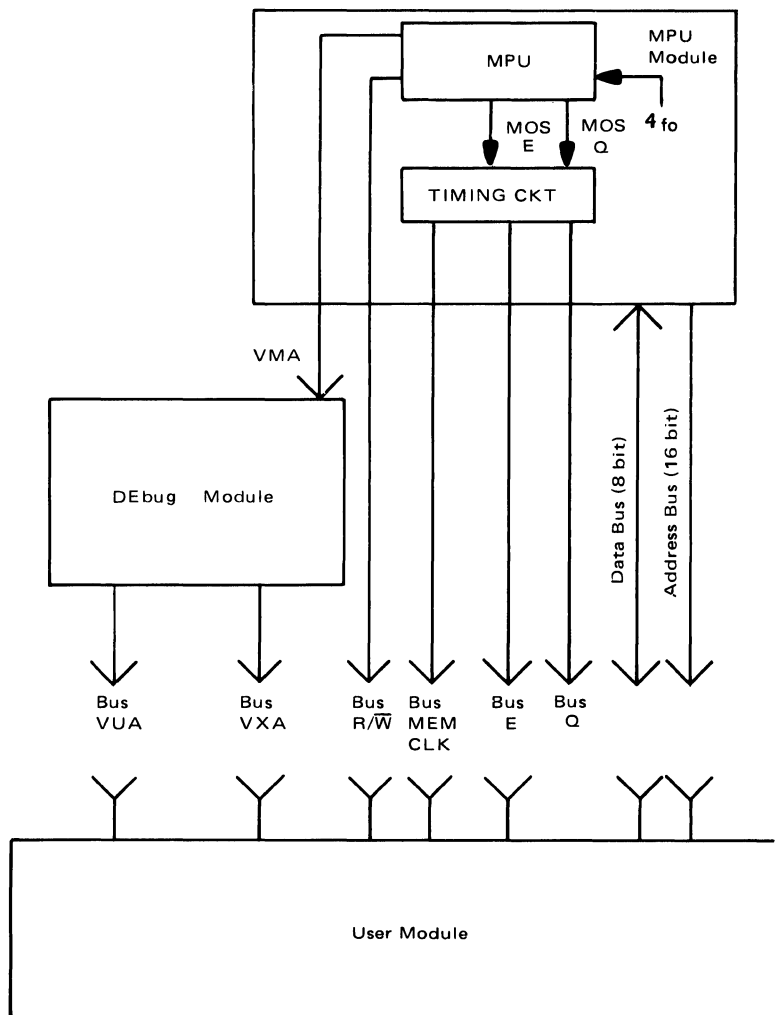
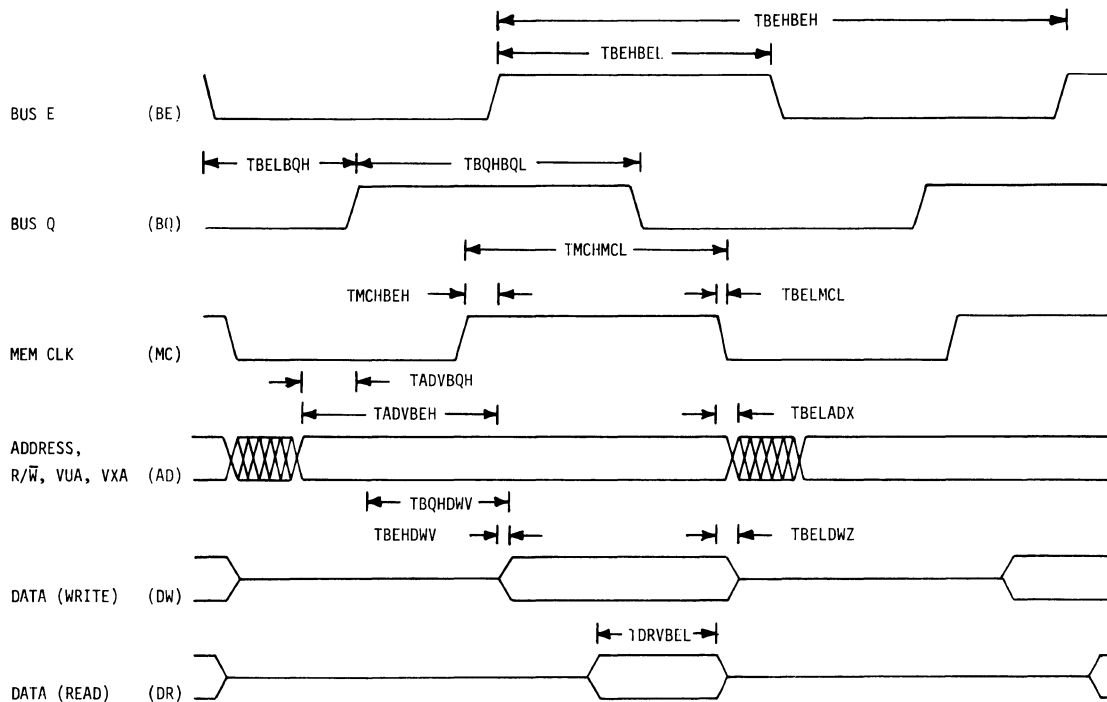

FIGURE 1. EXORciser Timing Signals Diagram (Bus View)
FIGURE 2. EXORciser Bus Specification Timing Diagram
The second portion of Appendix A is intended to provide the user with detailed timing data and general application notes. It is written from the perspective of the design engineer who wants to design a new peripheral and/or memory module that will interface with the EXORciser bus. Therefore, timing data is presented with respect to the bus (internal timing on specific modules is not discussed). Figure 1 presents a block diagram illustrating this point of view (using the bus as the reference). Figure 2 provides a general timing diagram for the most important signals on the bus. Frequent reference will be made to these two figures throughout the following discussion.
All abbreviations shown in Figure 2 and Table 5 (as well as in the examples) use upper case characters with no subscripts. The initial character is always the letter T followed by a six-character descriptor. This descriptor is used to identify the to/from measurement points. The first three letters of the descriptor identify the signal name and transition level for the measurement starting point, while the last three letters identify the signal name and transition level for the measurement ending point. The descriptor format is illustrated in Table 3, while Table 4 lists the measurement abbreviations.
The bus timing and control signals are generated by the MPU and Debug Modules. These signals will be described with reference to Figures 1, 2, and Table 5.
The time relationship between the bus signals is shown in Figure 2, while the minimum, typical, and maximum time values for the signals are listed in Table 5 (for 1.0 MHz, 1.5 MHz, and 2.0 MHz operation). All of these time values are referenced to either the leading edge or trailing edge of BUS E (BE) or BUS Q (BQ). Time relationships not specified within this table can be readily calculated from the information provided. Examples 1 and 2 present two typical problems, along with the calculations required to determine the solution to each.
From Figure 2, we obtain the BUS E, BUS ADDRESS, and DATA (READ) signals.